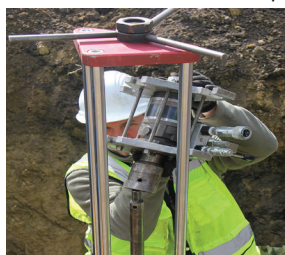

Figure 60
4.8.9) Lower the drive unit onto the machined hex of the saw mandrel. Confirm the drive unit is fully seated onto the machined hex of the saw mandrel (see Figure 60).